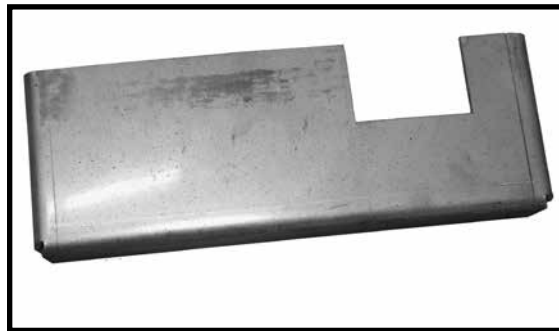

Figure 23: Bottom shield.(Part #80002585)
1. Install the Stainless Steel Bottom shield (Figure 23) over the blister in the bottom of the firebox, as shown in Figure 24